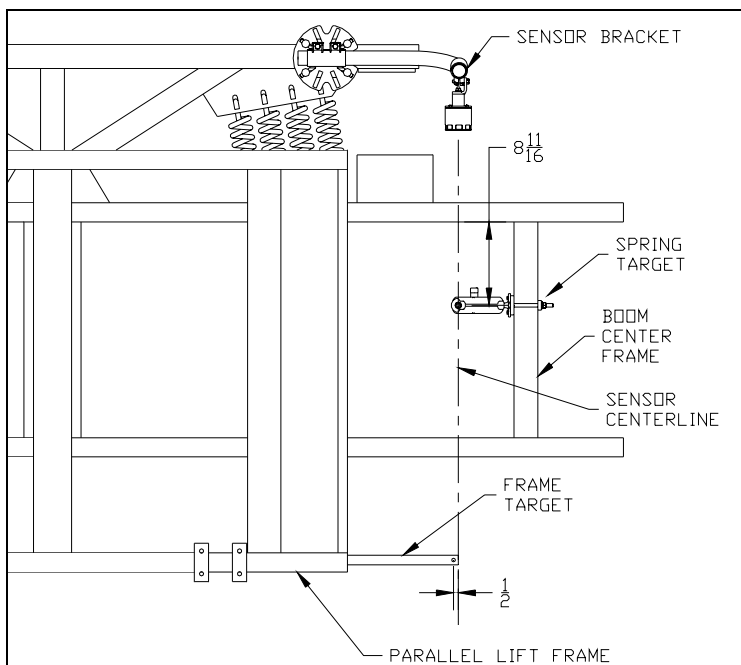

Figure 7 – Active Roll Rod and Sensor Details for a John Deere 47XX (Front View)
- The spring target should cross directly below the sensor centerline (**Figure 7**).
- The frame target should be located 1/2" off the centerline (**Figure 7**).